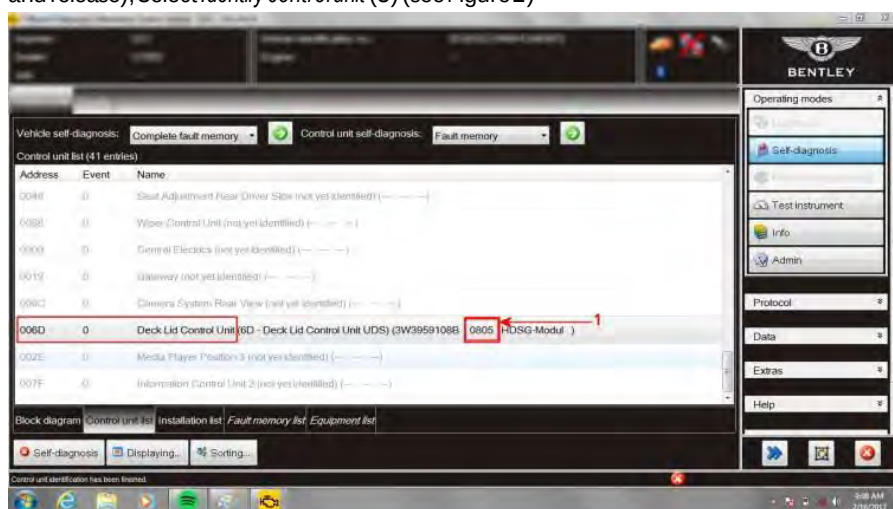

Figure 3
- With 006D Deck Lid Control Unit identified check the software level, data 1 in figure 3. If the software level shown is 0805 or higher the software has no error therefore this TPI is not relevant. If the software level shown is 0804 then replace the boot lid control unit. Refer to workshop manual Rep.Gr.97 Boot lid control unit (J605) – To remove and fit